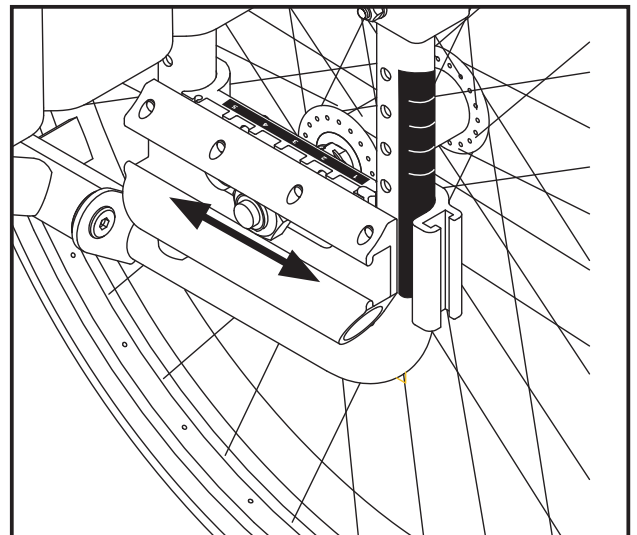

Figure 27
- Adjust the casing of the driving wheel forward or backward (Figure 27).